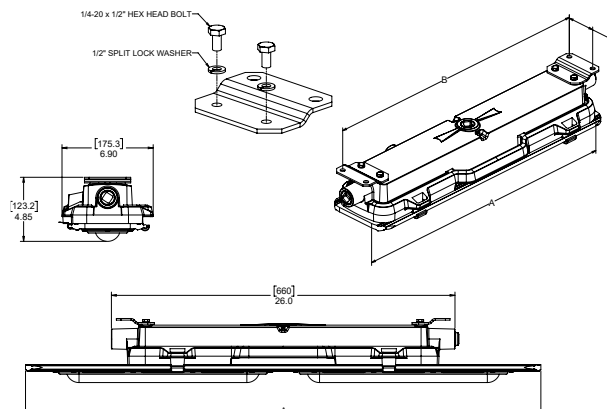

Figure 1. Flush Ceiling Mount Installation
2. Install flush mount brackets to rear of luminaire driver housing using the provided two (2) 1/4" hex bolts and split ring lock washers for each bracket. Bracket orientation as shown in Figure 1. Torque to 64 in.-lbs (7.2 N-m)
3. Identify mounting location suitable for supporting luminaire, mark and drill holes for flush brackets per dimensions shown in Figure 1.
4. Luminaire is now ready for mounting. It is strongly suggested to use two (2) qualified tradespeople to proceed with the final mounting of the luminaire. This is recommended to avoid any personal injury or damage to the luminaire.